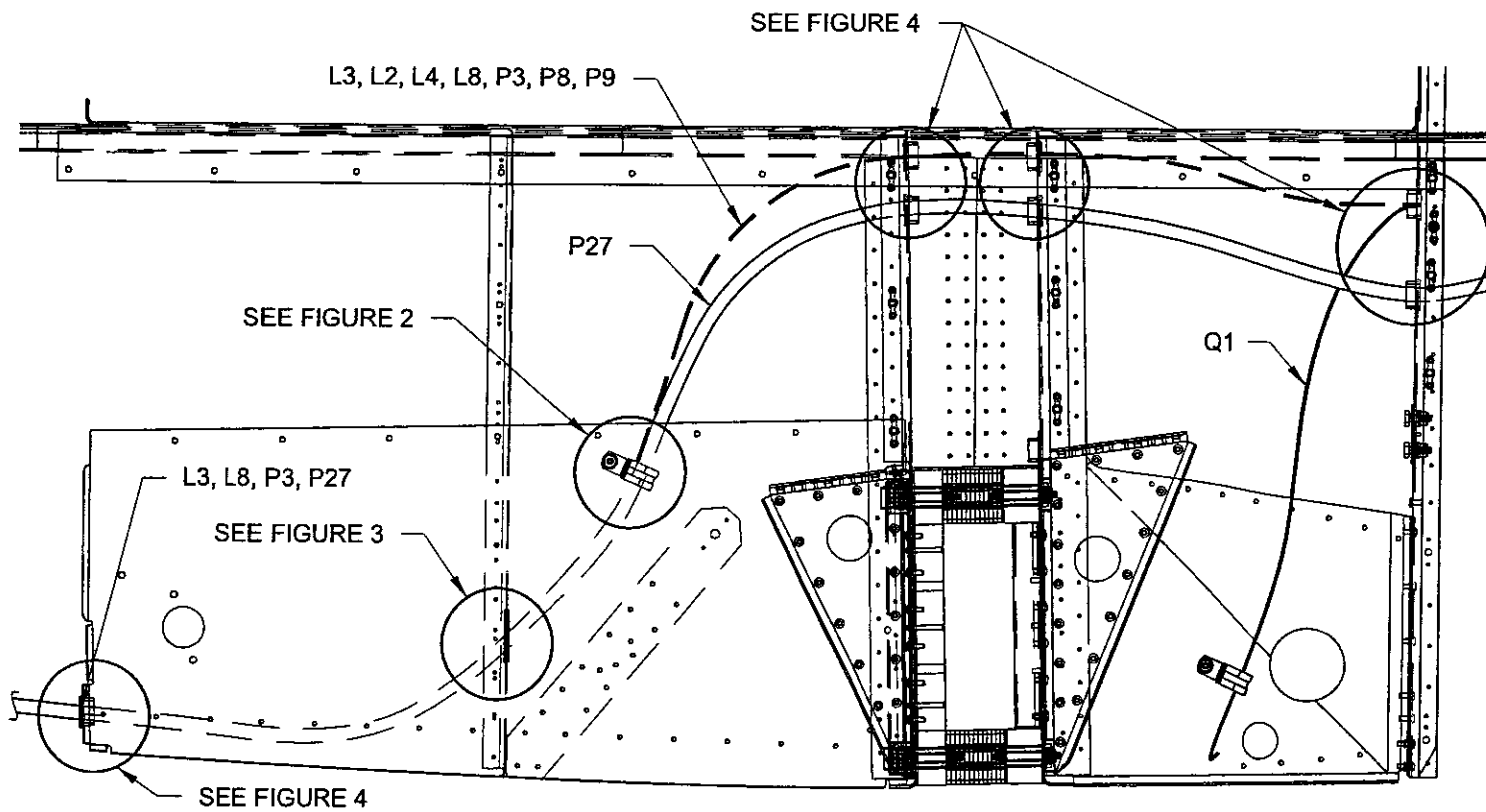

FIGURE 1: ATTACHING HARDWARE AT MID FUSELAGE
Step 1: Follow the references from Figure 1 to install the mounting hardware for cable P27 and others in the mid-fuselage.